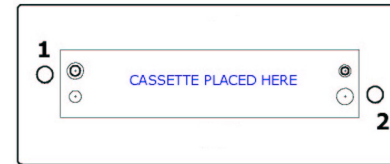

FIGURE 1
7. Using the calibrated torque wrench with an 11/16" deep socket, tighten each hex nut ¼ turn following the torque sequence illustrated in Figure 1. Tighten the first nut ¼ turn, and then tighten the second nut ¼ turn alternating back and forth until the torque wrench "clicks". Repeat this sequence until the wrench "clicks" without turning the nut. The "click" of the torque wrench indicates that the nut has reached the set point torque value.
8. Wait 5-10 minutes and allow the gaskets to relax before re-torquing. Check each nut, per the Figure 1 sequence, using the torque wrench at its set point torque value (see step 7 above).